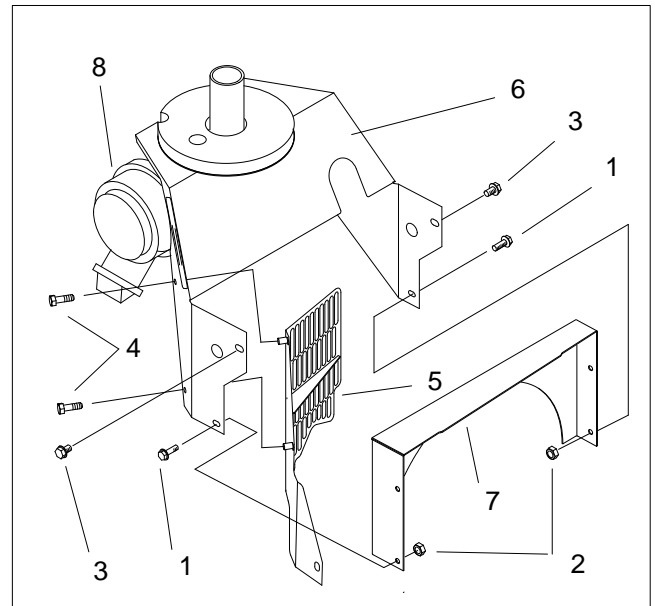
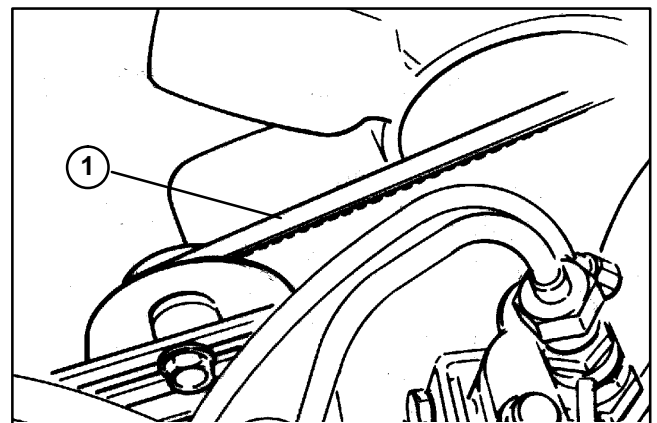

Figure 7
Figure 8
- Gain access to the alternator belt (Fig 7).
- Loosen top hose clamp securing the upper portion of the hose connected to the air cleaner (8).
- Remove cap screws (1) and lock flange nuts (2). Remove hex head screws (3).
- On European models, remove hex head screws (4) from the guard (5) and air cleaner housing (6).
- Pull air cleaner housing from the radiator top shroud (7) and hose. Plug air cleaner hose and hose inlet to the air cleaner.
- Adjust alternator belt to the proper tension. Tension alternator belt so it deflects 0.20 inch with a 2 to 3 pound load applied midway between the crankshaft and alternator pulleys (Fig. 8).
- Reinstall air cleaner housing (Fig 7).
B. Place air cleaner housing (6) on the radiator top shroud (7). Reconnect upper end of the air cleaner hose to the air cleaner (8). Align holes to receive fasteners.
C. On European models, reinstall hex head screws (4) into guard (5) through the air cleaner housing (6).
D. Secure cap screws (1) and lock flange nuts (2) to air cleaner housing and radiator top shroud (7).
E. Secure hex head screws (3) into the air cleaner housing and radiator assembly.